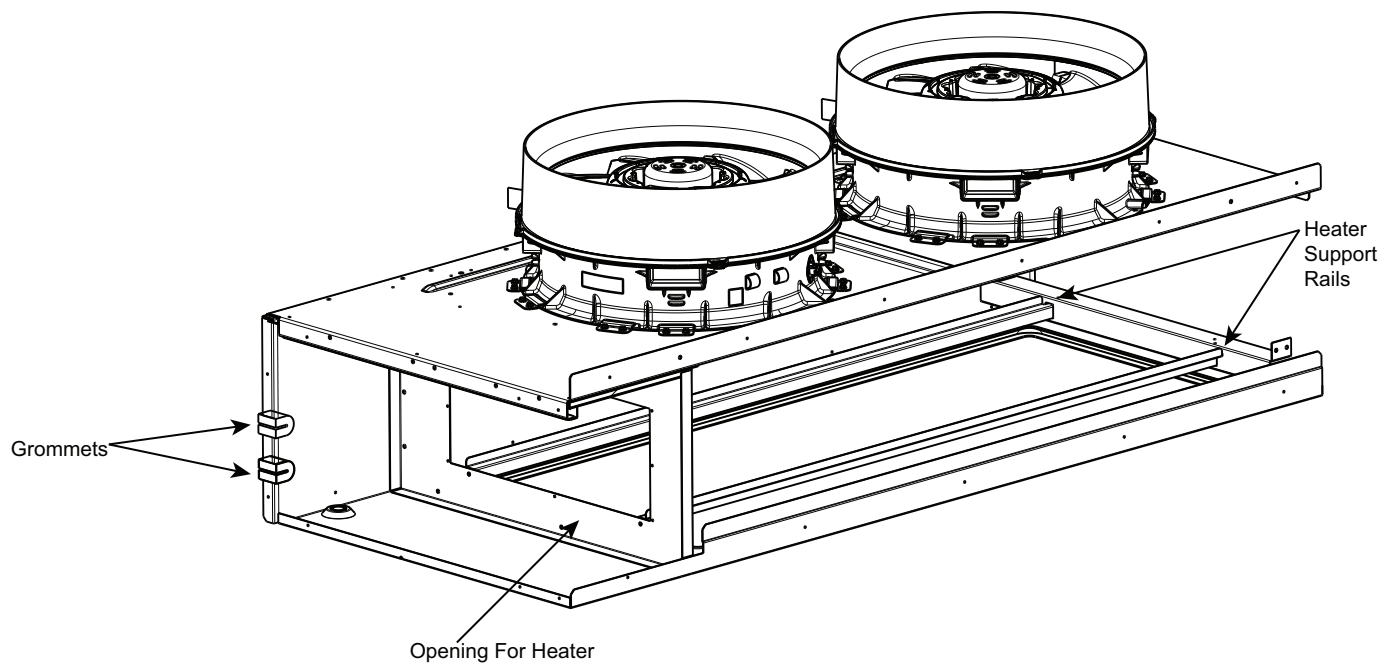

Fig. 47 — Opening for Electric Heater
4. Insert heater assembly through opening where block-off plate was previously removed. Let back end of heaters slide along support rails beneath fan deck. (See Fig. 47.)
6. Route heater power wires through grommets notches in vertical fan deck support. (See Fig. 47.) Continue routing wires under coil and filter support through the bottom notched section of the control box. Avoid sheet metal edges and any protruding screws.